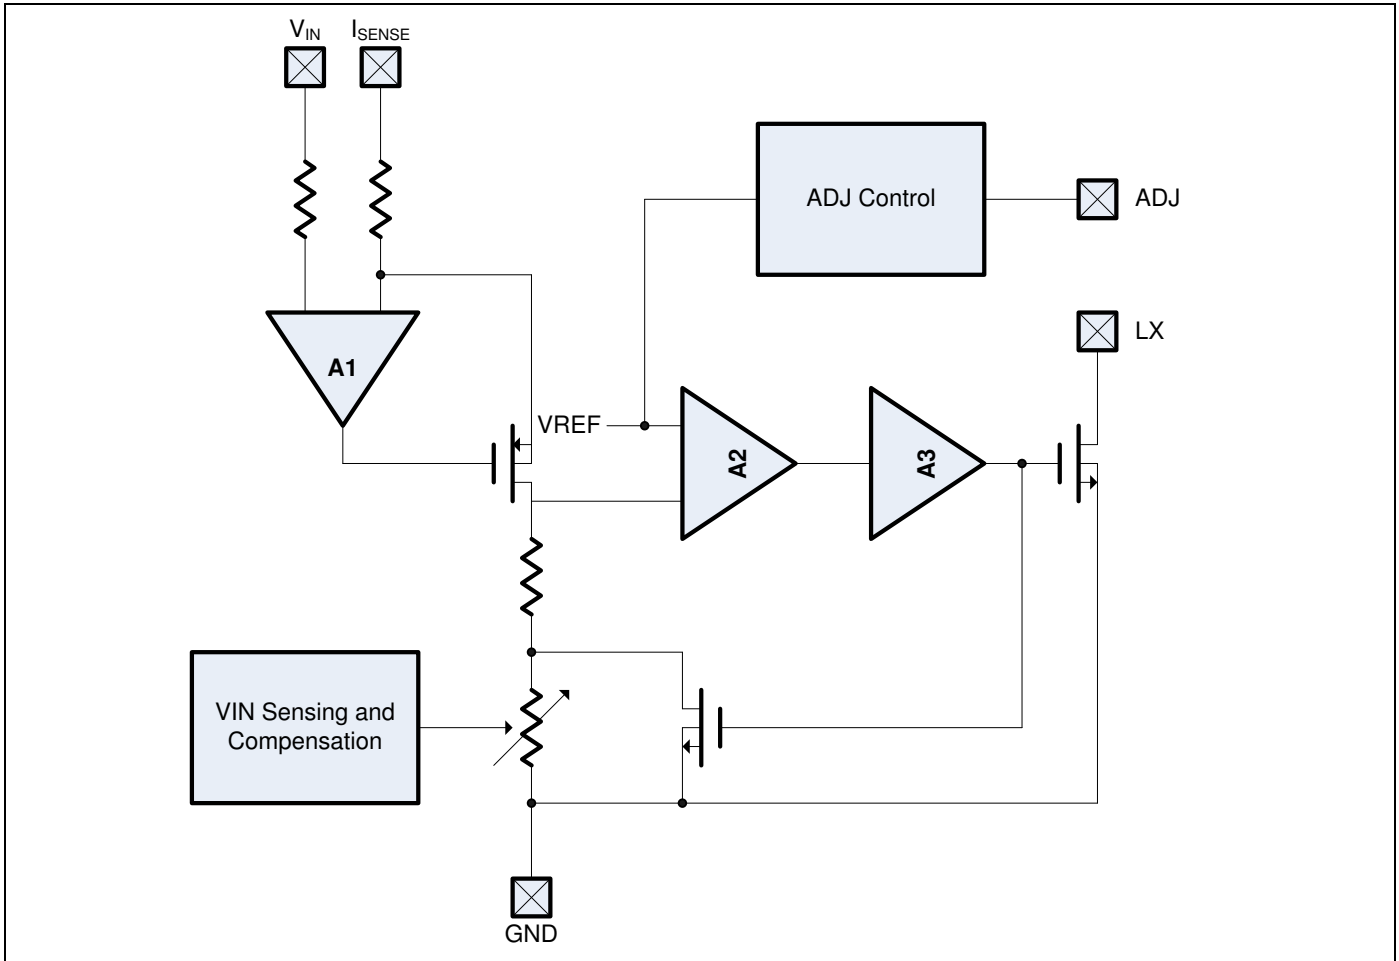
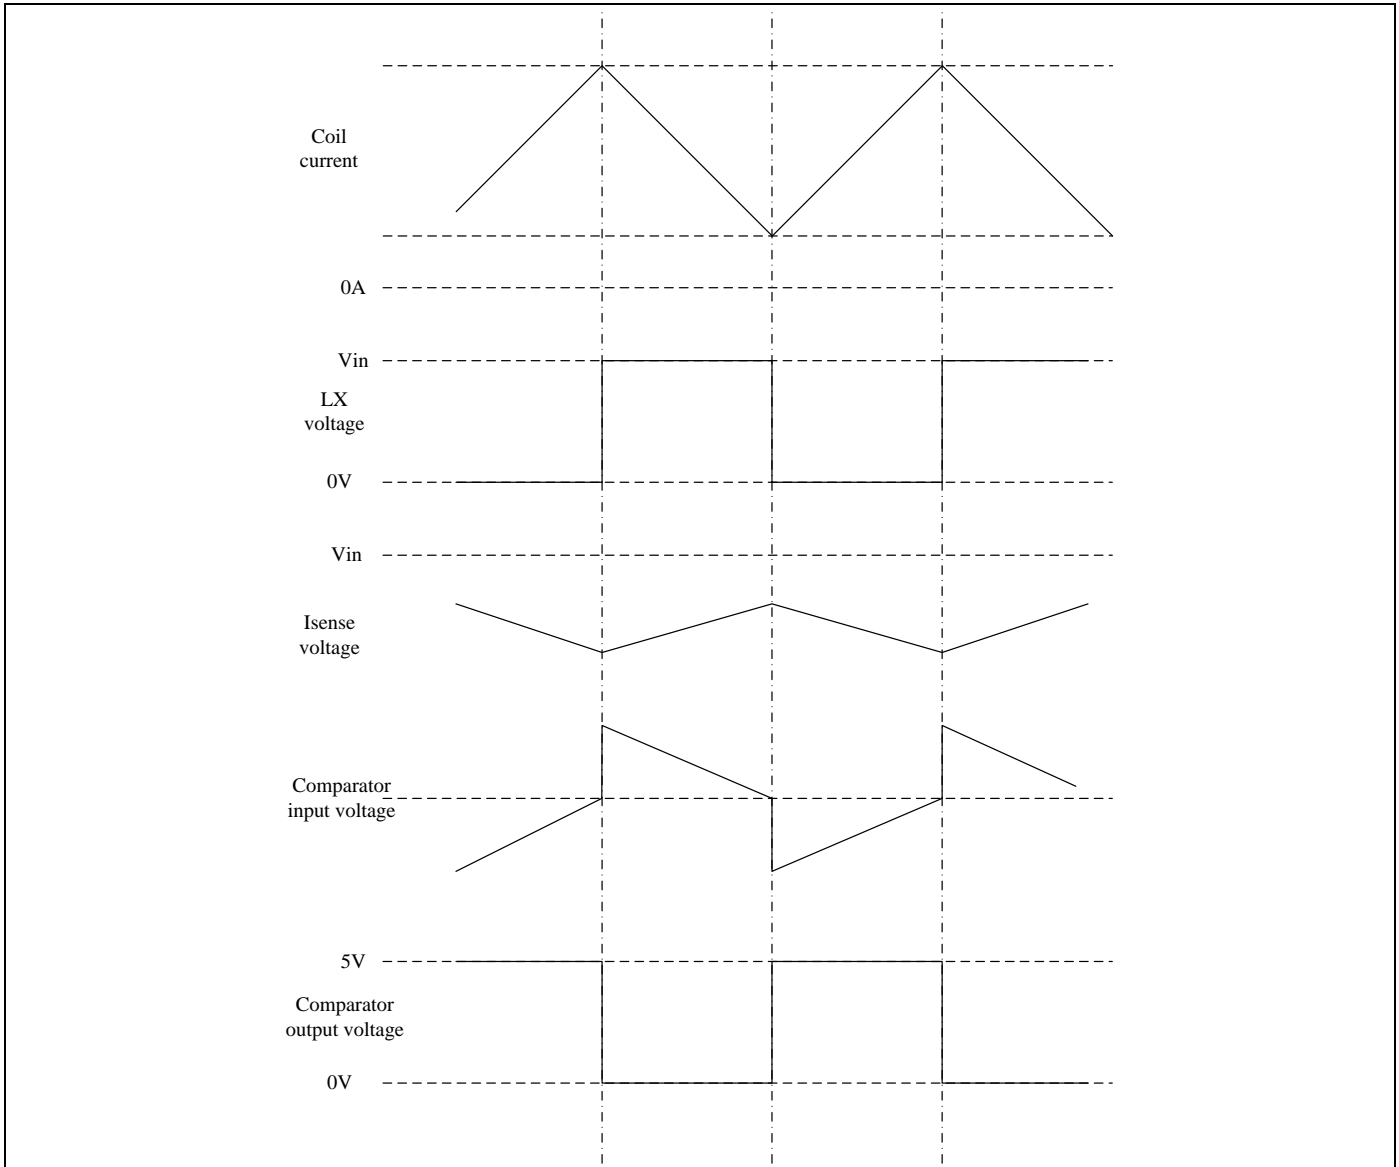

Figure 2. Functional Block Diagram
Figure 4. Operating waveforms
6.1 Device operation (Refer to **Figure 2. Functional Block Diagram** and **Figure 4 Operating waveforms**)